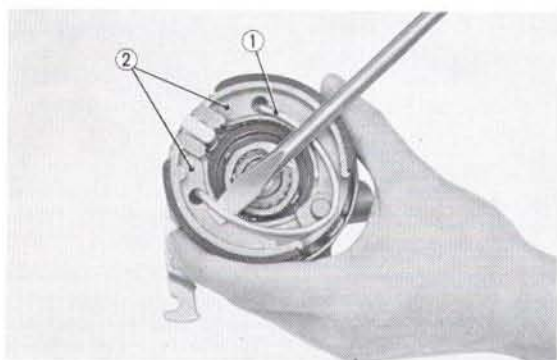

Fig. 4.2 ① Front brake shoe spring
4. Remove the brake shoe spring and disassemble the front brake shoes. (Fig. 4.2)